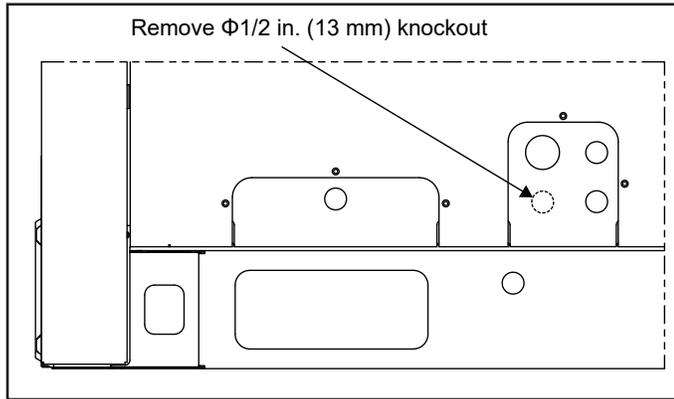

Figure 12. Remove Knockout
- Remove the $\Phi 1/2$ in. (13 mm) knockout on the wiring entry panel on the bottom front of the unit as shown in Figure 12.